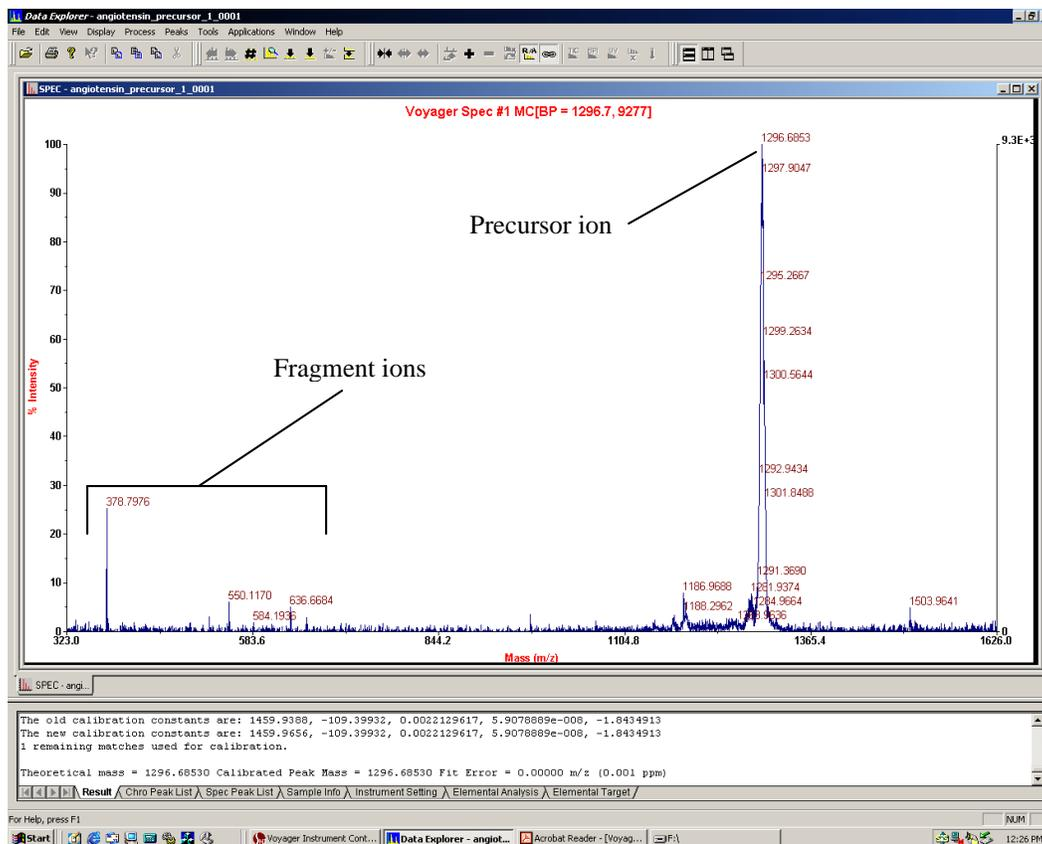

Figure 1: Precursor ion spectrum of angiotensin.
- 2.7 Open angiotensin_precursor.dat in Data Explorer (*Figure 1*).